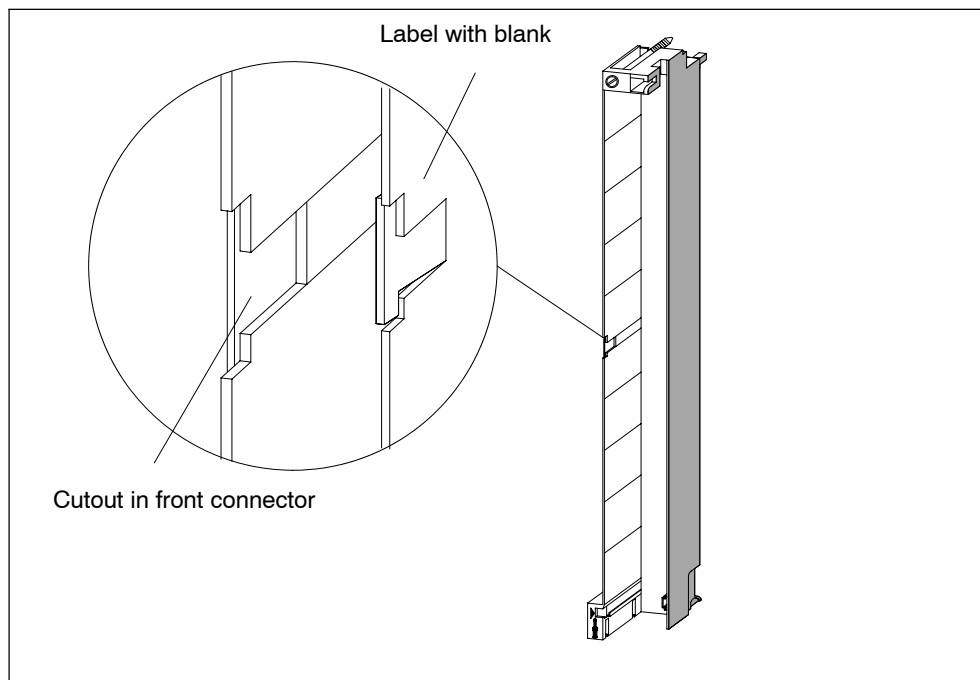

Figure 4-19 Fitting a Label in the Front Connector
2. Place a label on the left of the opened front connector. The label has a T-shaped blank in the middle with which you can fix the label onto the front connector housing. Bend the blank slightly to one side and push it behind the corresponding cutout of the front connector whilst sliding in the label (see Figure 4-19).
Figure 4-19 shows details for fitting a label in the front connector.